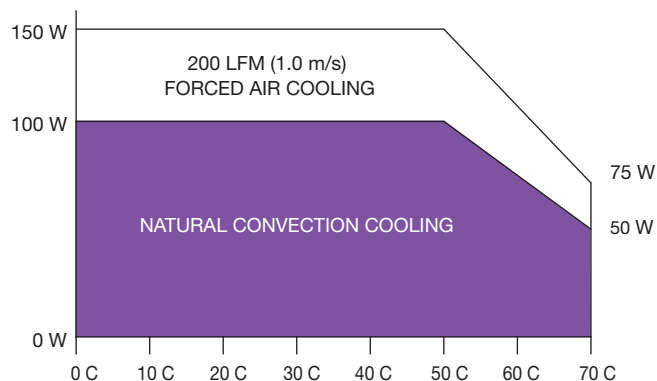

Figure 1: Derating Curve
1. Free air convection. Maximum continuous output power not to exceed 100 W. Refer to Figure 1 for the derating curve.